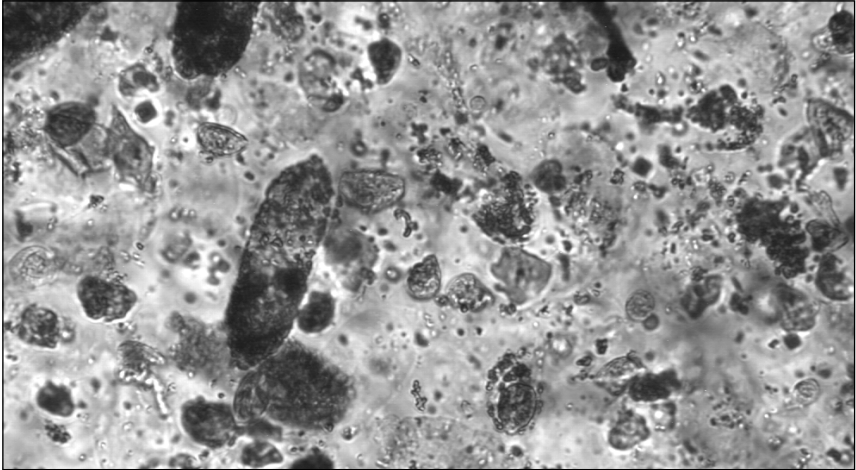

Figure 20. A crowded viewfield image without automatic tags added
- Viewfield images that are so crowded with particles that it is difficult to distinguish between various elements are considered **Images for review** (see Figure 20)—they have **Yes** in their **For review** column in the Image List, and the message **Image excluded from the automatic evaluation!** is displayed in red in the SVE header.